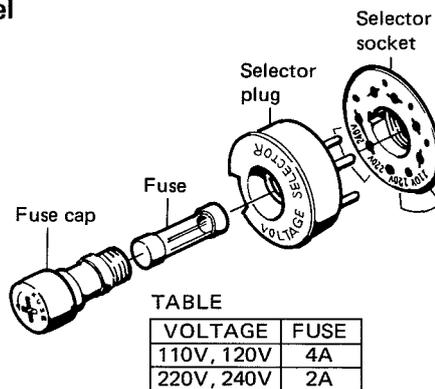

Fig. 1
2. Use the Phillips screwdriver to unscrew the fuse cap, then take out the fuse and SELECTOR plug (Fig. 1).